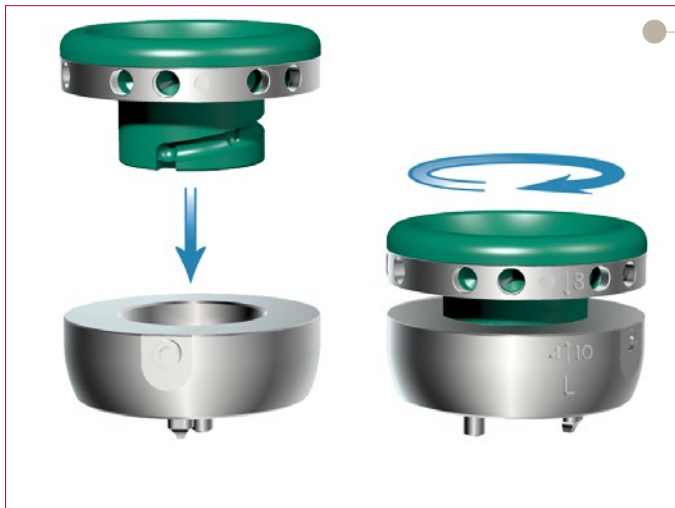

Figure 44
- ▶ Insert the selected expanding Insert Trial into the Expanding Humeral Cup Trial and rotate clockwise until it is in its collapsed state [Figure 44].